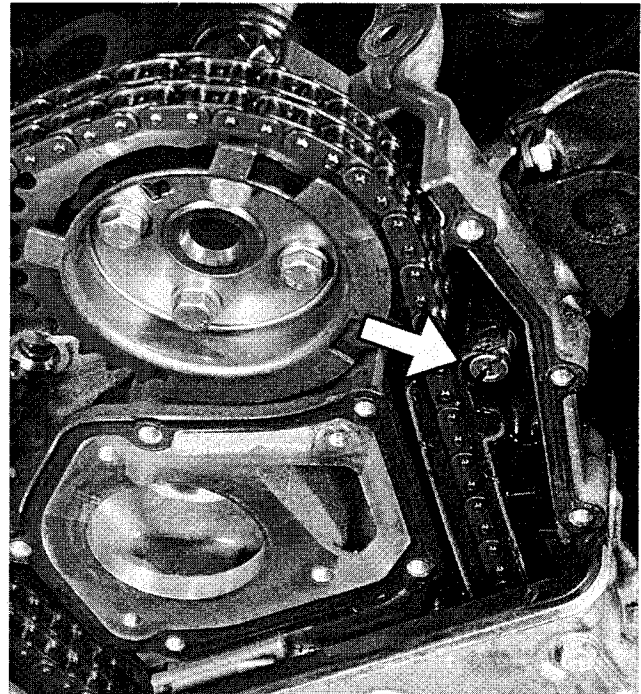

Fig. 10. Left upper chain guide adjusting sleeve (arrow). Note camshaft position
6. On M44 engine: Remove allen-head retaining screw at left chain-guide. Turn slotted-head of adjusting sleeve so that sleeve contacts cylinder head. Then install and tighten allen-head screw fully. See Fig. 10.